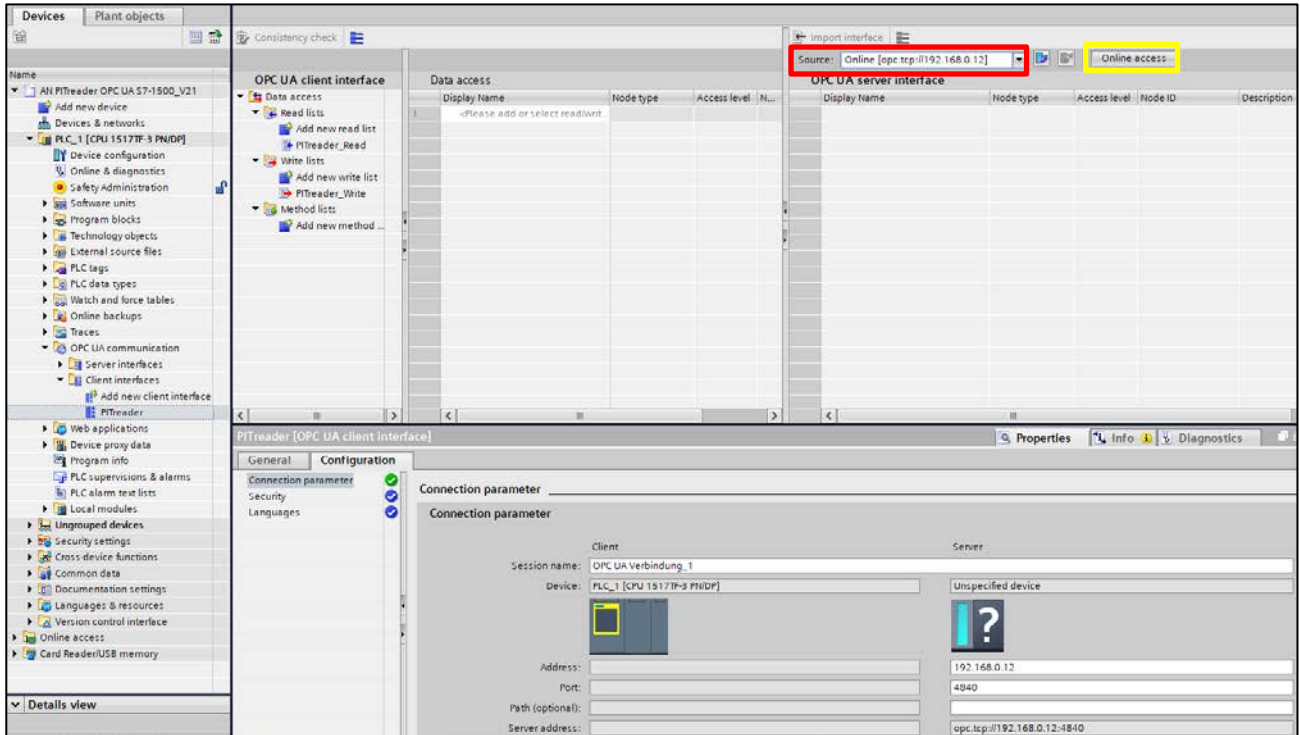

Figure 14: Import OPC UA Server interface
1. Under "Source", select "Online[]" (Figure 14 red square).
2. Click on "Online access" (Figure 14 yellow square).